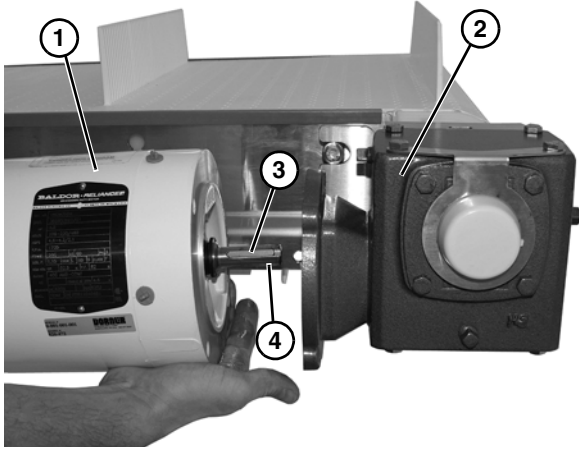

Figure 18
- Slide motor (**Figure 18, item 1**) off of gear reducer (**Figure 18, item 2**), and remove shaft key (**Figure 18, item 3**) from motor shaft (**Figure 18, item 4**).
- With key (**Figure 18, item 3**) in keyway on motor shaft (**Figure 18, item 4**), slide new motor (**Figure 18, item 1**) and gear reducer (**Figure 18, item 2**) together.